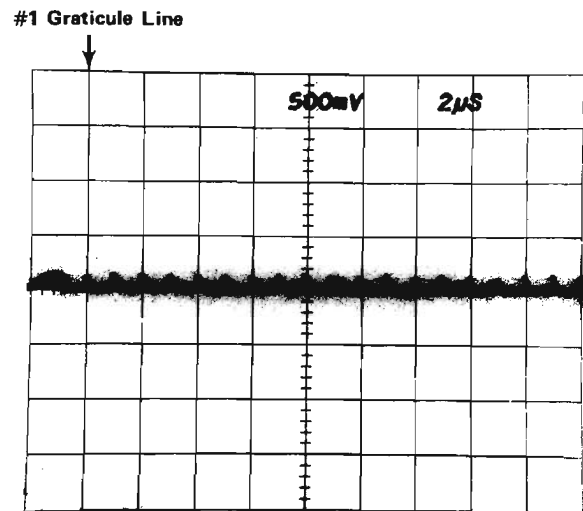

Fig. 7-7. Setting of Leadtime and Registry.
f. Alternately push and release the SWP pushbutton and check that the first narrow time marker remains between 0.0 and 1.1 divisions from the left edge of the graticule (see Fig. 7-7).
- Turn R472 (see Fig. 7-3) to the clockwise extreme, then adjust counterclockwise until a marker is centered on the number one graticule line (see Fig. 7-7).
- Adjust R230 (see Fig. 7-3) so that the first narrow marker (see Fig. 7-7) is precisely centered on the number one graticule line.
- Check that there are two markers per division and that every second marker is within 0.3 division of the corresponding major graticule line for the first through the ninth division (see Fig. 7-7).